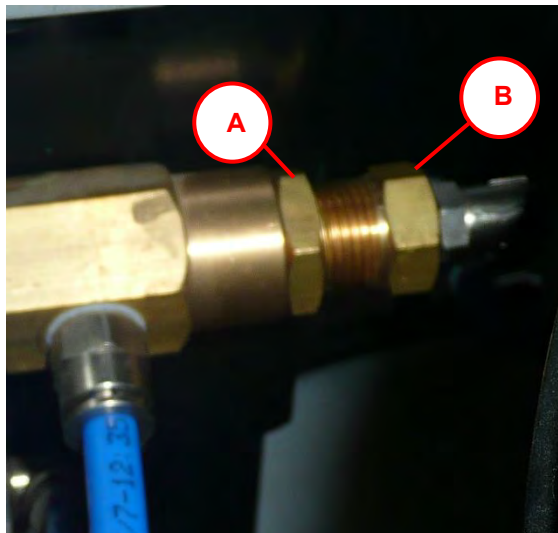

Figure 11.2-1 Adjusting maximum pressure of the air compressor
- 4) Open the hood with the engine running and loosen the 22mm lock nut (Letter A in Figure 11.2-1) on the maximum pressure valve
- 5) To increase the maximum pressure, tighten the 19 mm nut (Letter B in Figure 11.2-1)
- 6) To reduce the maximum pressure, loosen the 19 mm nut (Letter B in Figure 11.2-1)
- 7) Tighten the lock nut when the appropriate pressure is obtained (Letter A in Figure 11.2-1)